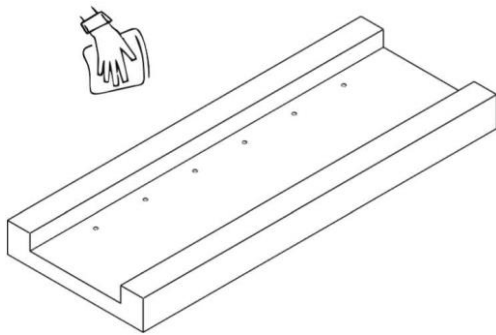

Figure 5.2-1 Clean the installation interface
- ▶ Use clean wiping cloth to dip with alcohol (95% industrial alcohol), and clean the installation interface. (refer to Figure5.2-1)